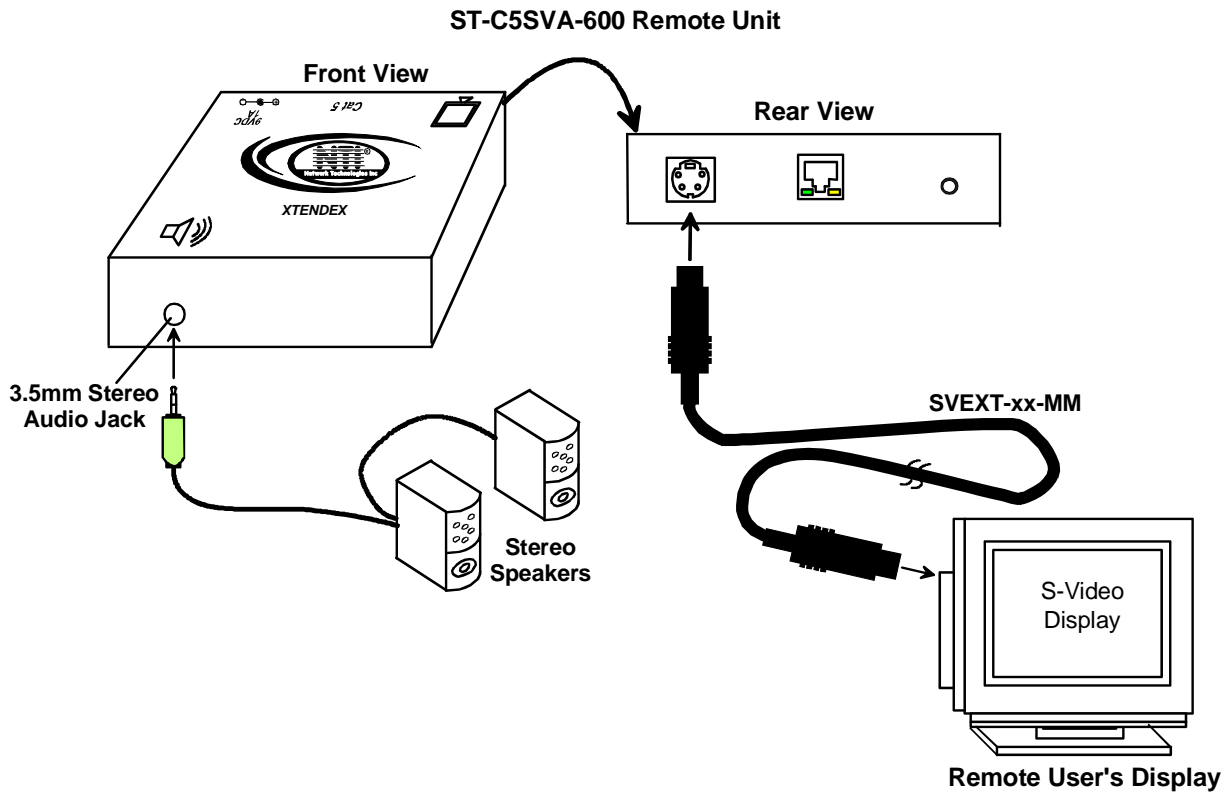

Figure 11- Connect components to an S-Video Remote Unit
4. If the Remote Unit has audio support, connect the speakers to the 3.5mm jack on the Remote Unit (see Figure 11).